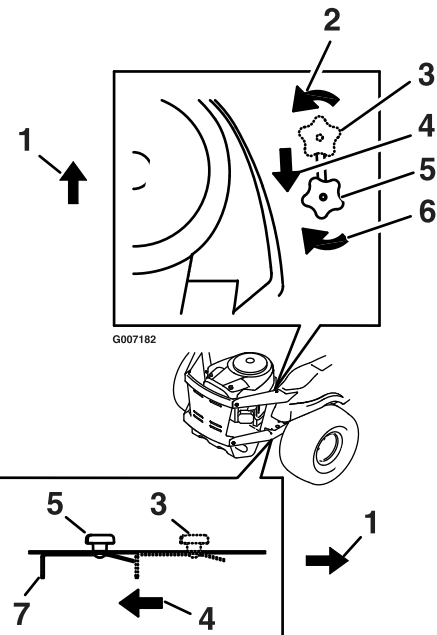

Figure 16
3. Locate the bypass release knobs on either side of the engine deck (Figure 16).
4. Loosen the knob by turning counterclockwise. Then pull the release lever on the underside of machine (Figure 16) towards the back of the machine and retighten the knob to hold the
Loosen the bypass knob, push the release levers forward, and retighten the knob to engage the drive system (Figure 16).